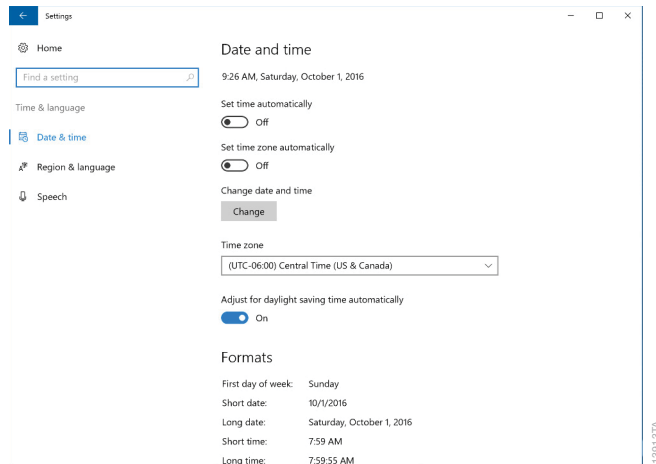

Figure 123. 'Time & language' screen. Settings for Date and time can be modified from this screen.
- c. Touch the **Time & language** button on the 'Windows Settings' screen to open the 'Time & language' screen (Figure 123).